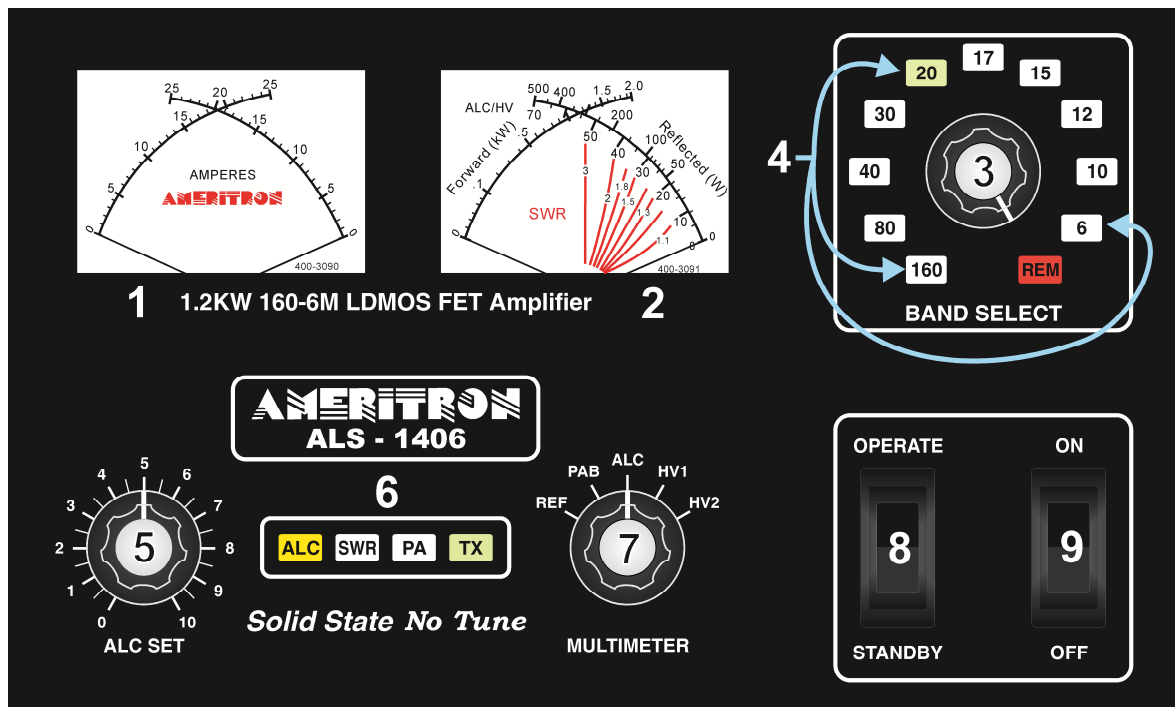

Figure 5 Amplifier Front Panel
Note: The right-hand meter's left scale-arc (fig.5 ref 2) continuously indicates forward peak envelope power (PEP) output directly in kilowatts. It is 100 watts, or 0.1 kW, per meter scale picket. PEP has no fixed relationship to long-term average power except, for constant amplitude carriers like a steady CW carrier, when PEP and average powers are equal. PEP is the highest average power during one (or more) radio frequency cycle(s) at the modulation envelope crest.
This amplifier covers all Amateur Radio frequencies below 54 MHz, as restricted by FCC or your local governing authority. Once you have established proper connections, please set the amplifier (Fig. 5, ref 3) to one of the following bands:
1. Place the **MULTIMETER** switch (fig.5 ref 7) in the **HV2** position. Place the **ALC SET** control (fig.5 ref 5) full clockwise (10 on knob scale). The multimeter is the right-side scale on the rightmost panel meter (fig.5 ref 7).
2. With the **STANDBY/OPERATE** switch (fig.5 ref 8) on **STANDBY**, turn the power switch (ref 9) **ON**.
3. There will be a slightly delayed “click” from the power supply. **HV2** (fig.5, ref 2) should immediately rise to near full scale, and after another delay, you should hear another “click”. The meters and the appropriate **BAND** LED (fig.5, ref 4) should illuminate.
4. The multimeter **HV2 scale** (fig.5, ref 2, bottom right scale) should read between 45 and 55 volts.
5. Change the meter switch (fig.5 ref 7) to **HV1**. The voltage should be the same as in step 4.
6. Rotate the **BAND** switch (fig.5 ref 3) through all positions. The appropriate **BAND** LED will illuminate, and you should hear band-filter relays switch between 160-80, 80-40, 40-30, 20-17, 15-12, and 10-6 selector position changes.
7. Set the **BAND** switch (fig.5 ref 3) to a band where you have a good 50 ohm high-power load connected.
8. Change the meter switch (fig.5 ref 7) to **REF**. In this position, the multimeter indicates reflected power.
9. With no modulation in the FM, AM, RTTY, or CW mode, and the amplifier still on standby, adjust your exciter power to about ten watts. This is to have a steady unmodulated carrier. Verify you have very low power, ideally around 10 watts carrier (not critical), and that VSWR of *the antenna system* is low. You should see almost no deflection on the reflected power scale (fig.5 ref 2) with the **MULTIMETER** switch in the **REF** position. If you see reflected power deflection, check your RF cables and antenna system. **Reminder: You cannot use a tuner in your radio, or between your radio and this amplifier, to match the antenna system. Any antenna matching must be between the amplifier and the antenna, and the antenna tuner and other items beyond the amplifier must be conservatively able to handle over 1200 watts of carrier or peak envelope power.**
10. Place the amplifier in **OPERATE** position (fig.5 ref 8). Be sure the **BAND** on the amplifier matches the band selected on the transceiver.
11. Place the transmitter or transceiver into transmit in FM, AM, RTTY, or CW modes. The green **TX** LED (fig.5 ref 6) should light. The forward power (fig.5 ref 2) should increase to approximately ten times the initial exciter power reading. Reflected power should remain very low, and the PA current should increase slightly on both scales of the current meter (fig.5 ref 1). No other LED's should illuminate.